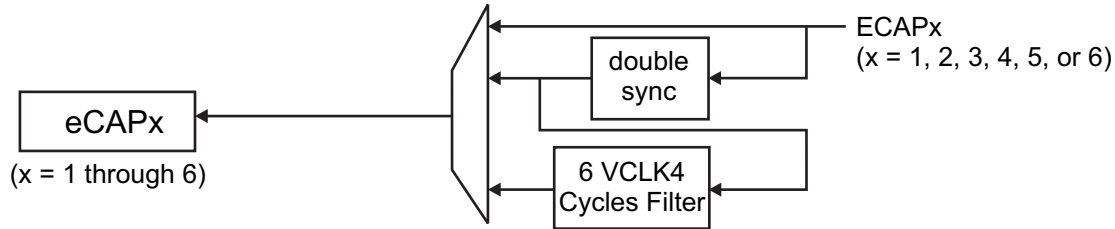

图 6-7. eCAPx Input Synchronization Selection Detail
A. For more detail on the input synchronization selection of the ECAPx pins to each eCAPx module, see Figure 6-7.
Figure 6-7 shows the detailed input synchronization selection (asynchronous, double-synchronous, or double-synchronous + filter width) for eCAPx.